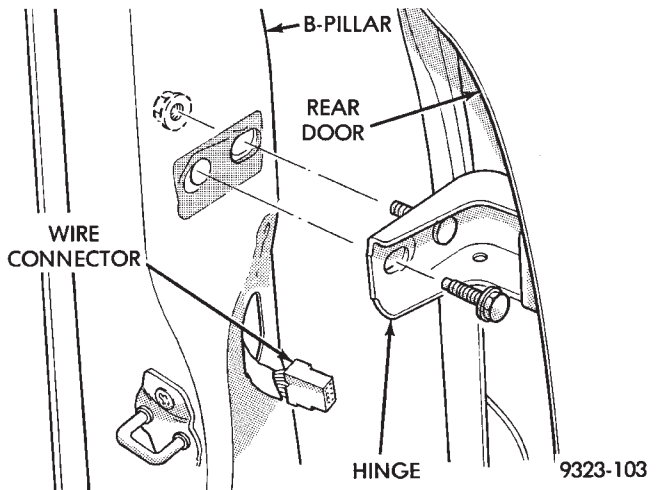

Fig. 46 Rear Door
- (5) Hold door inward against B-pillar.
- (6) Remove bolts holding door hinges to B-pillar (Fig. 46).
- (7) Hold door up and release door latch.
- (8) Separate door from vehicle.